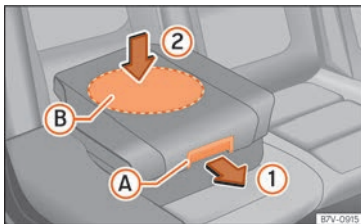

**Fig. 36** Integrated child seat: lowering the cushion.
- Pull the unlock lever »» Fig. 36 (A) on the cushion in the direction of the arrow (1).
- Push the cushion down through the central area (B) in the direction of the arrow (2) until it safely engages »» (1). The side supports fold away automatically.
When lowering the integrated child seat, only press on the centre of the cushion »» Fig. 36 (2). Otherwise the cushion could bend and not engage properly.